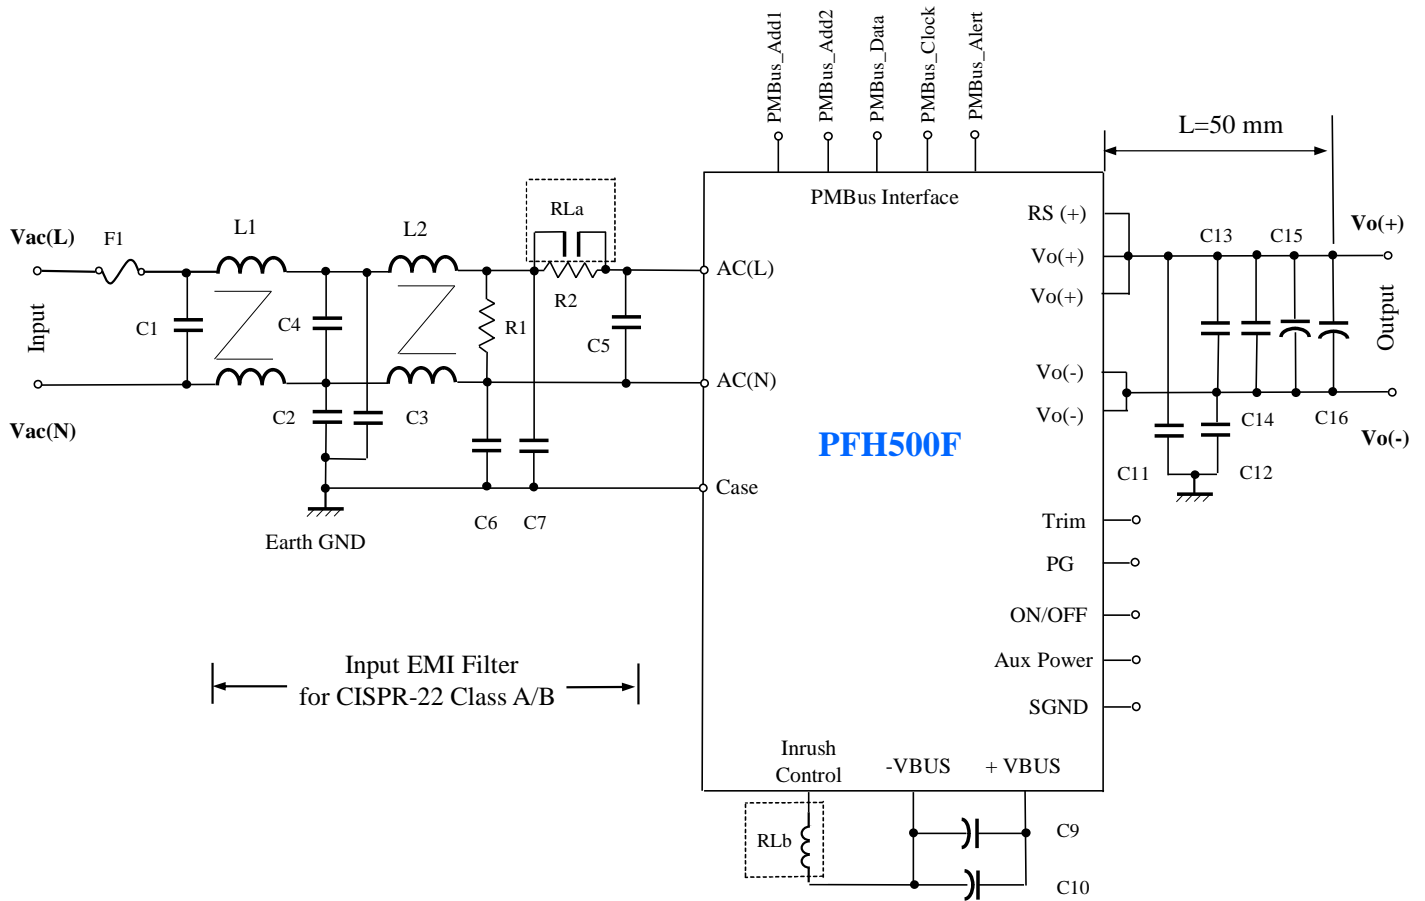

Fig.5-1 Basic connection
In order to use the PFH500 series, this module must be connected with external components according to Figure 5-1.
Connect bleeder resistor R1 across ac input terminals as shown in Figure 5-1.
By inserting a thermal fuse inrush resistor between the line filter and the input terminal, AC(L) as shown in Fig. 5-1, the inrush current can be limited to a pre-determined level to avoid the external line fuse from being blown or the input circuit breaker from being tripped or the bulk capacitors and/or PFH series module internal parts from being damaged or to avoid the oscillation between the input inductor and the bulk capacitors.